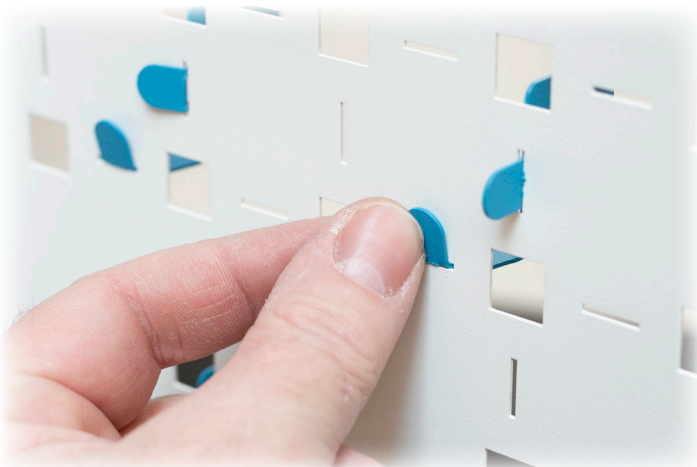

Figure 5.4
4. To lock each divider into place, bend both tabs 90-degrees. **Figure 5.4.**